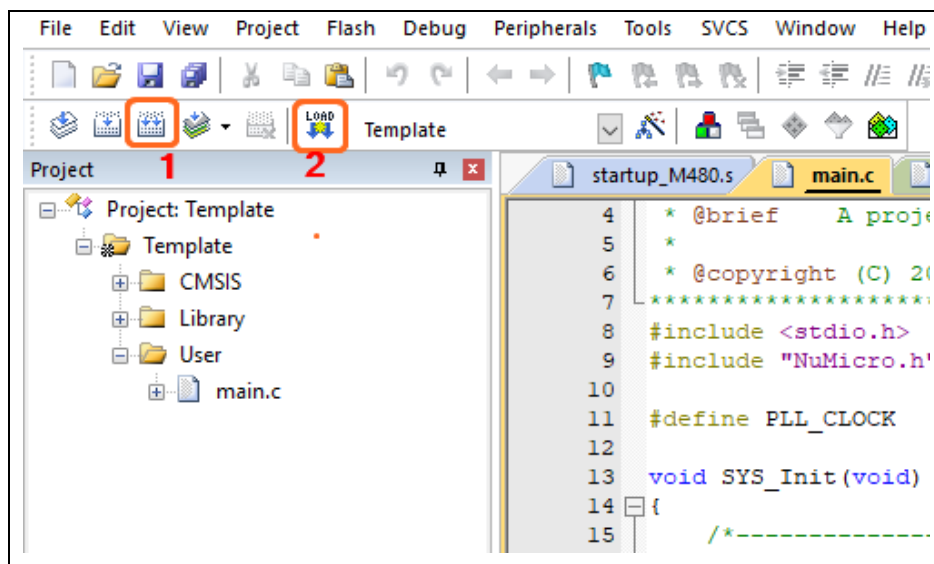

Figure 5.2-23 Build and Download Windows for ETM
- (12) As show in Figure 5.2-23, Build and Download code to target chip.